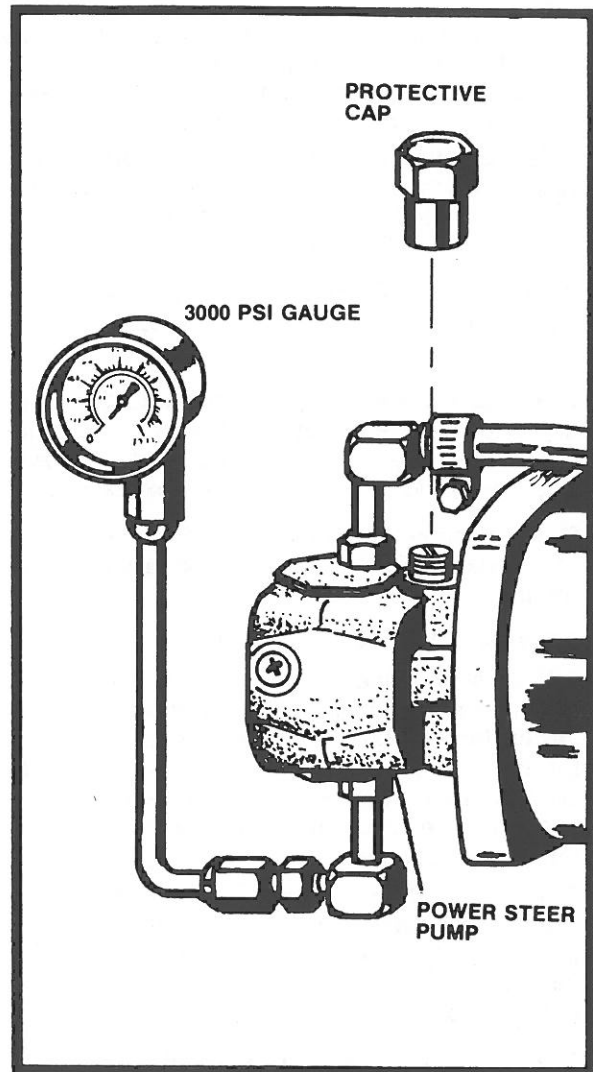

Figure 3-15
**3.81.1 Determine power steering system hydraulic pressure** before making any adjustments to the pressure relief valve or replacing the pump or orbitrol units. Attach a 3000 psi pressure gauge to the 1/8 NPTF port provided on the pump, 90 degree elbow, pressure fitting. Hydraulic pressure when the system is idling will be approximately 60 psi (Figure 3-15).
**3.81.2.1** Remove the protective cap. **Raise system pressure** by turning the threaded shaft inward (clockwise). Recheck relief pressure per 3.81.1. (Figure 3-15).